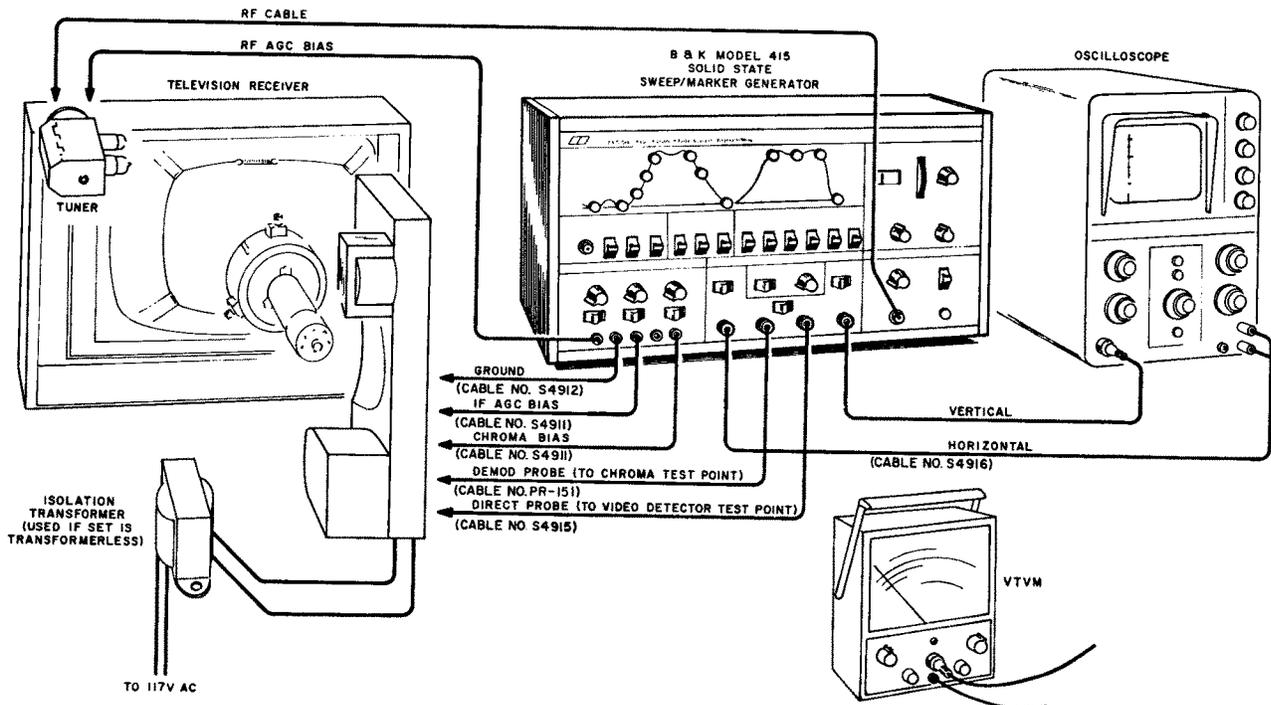

Figure 5.2 Equipment Interconnection
- ACCESSORIES—The accessories used in the set-up of Figure 5.2 and in the alignment instructions to follow are shown in Figure 1.1 (Repeated). The cable numbers are shown in Figure 5.2.
The interconnection set-up of Figure 5.2 is typical of that required in alignment work and applies for all procedures outlined later in the manual. Because numerous references are made to this section and to Figure 5.2, the information is repeated at the end of the manual in fold-out form as a convenience to the user. Pertinent information from Section 5.3 will also be included. Proceed as follows:
(The test set-up of Figure 5.2 and the set-up instructions of Par. 5.2 apply for the following procedures.)